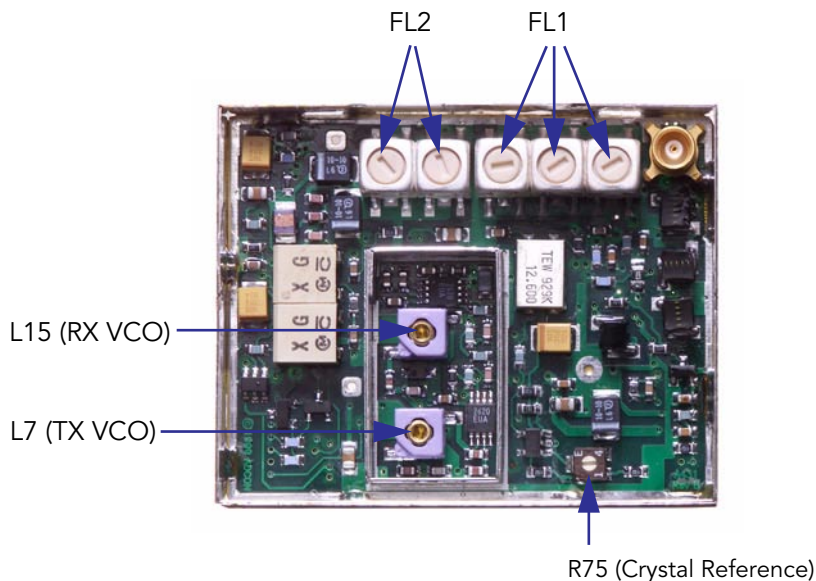
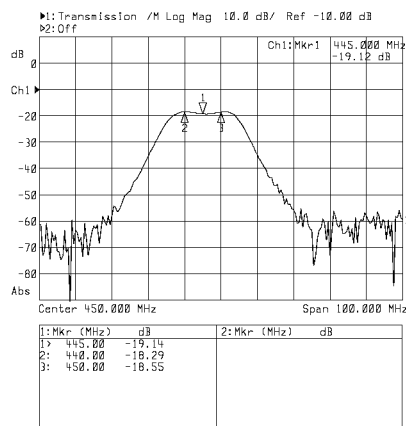

Figure 17. Location of the trimming elements.
Figure 18. Helical Filter + LNA's selectivity diagram.
The location of the trimming elements on the A431 Module is shown in Figure 17.
4. Adjust the FL1 and FL2 filters (see Figure 17) until you obtain a curve similar to the one shown in Figure 18 (depending on the band, the markers may be different); this is done by successively adjusting the five trimming screws located on the filters.
2. Adjust the coil L15 (see Figure 17) until the voltage shown on the digital voltmeter is 1400 mV, ± 50 mV (see also the note below).
4. Adjust the coil L7 (see Figure 17) until the voltage shown on the voltmeter is again 1400 mV, ± 50 mV.
2. Observe the indication shown by the Service Monitor: adjust R75 (see Figure 17) until the carrier frequency indicates 435000000 (Band 1), 445000000 (Band 2), 455000000 (Band 3), or 465000000 MHz (Band 4) $\pm$ 200 Hz, respectively.
For item 3.a above, adjust R75 (see Figure 17). For item 3.b, issue the command **PWR** at the terminal and use the **D** (down) and **U** (up) keys until the required value is reached. Finally, for item 3.c, issue the command **BW** at the terminal and again use the **D** and **U** keys to reach the required value.